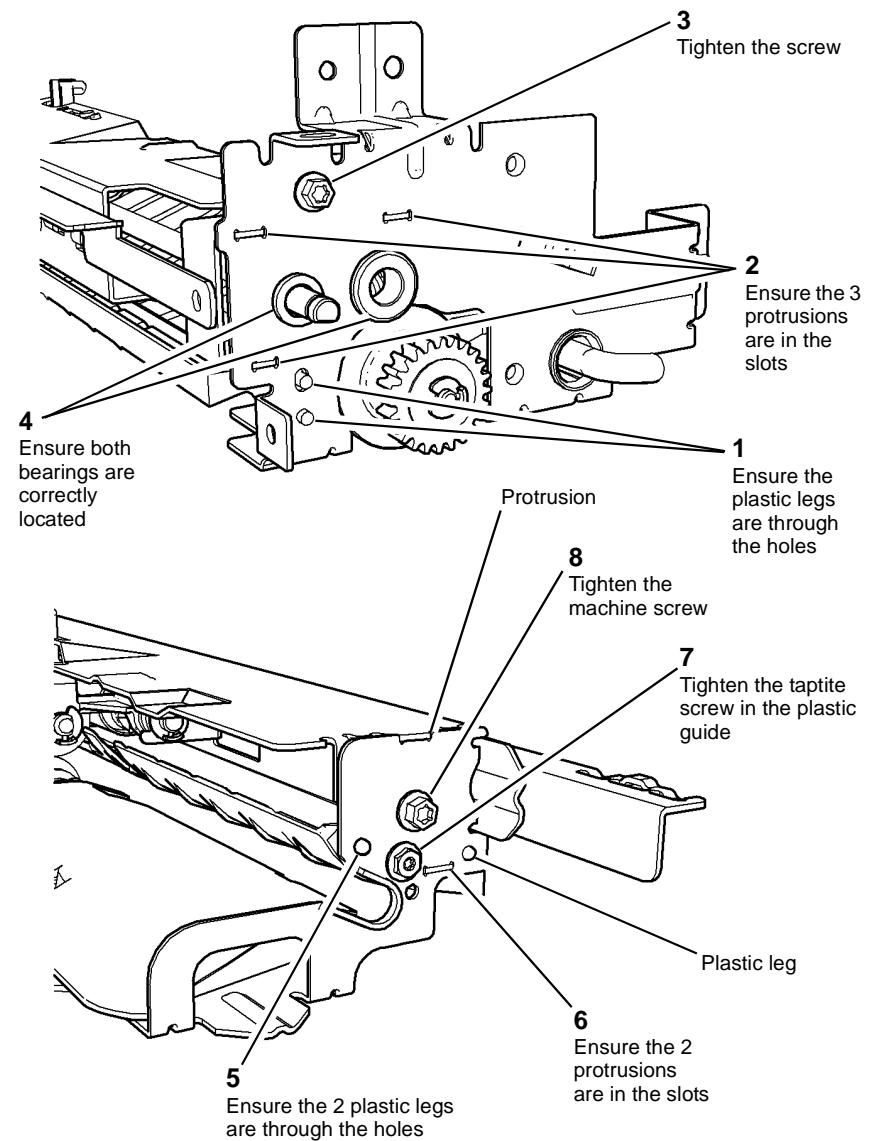

Figure 11 Final assembly
7. Align and secure the frame halves, **Figure 11**.